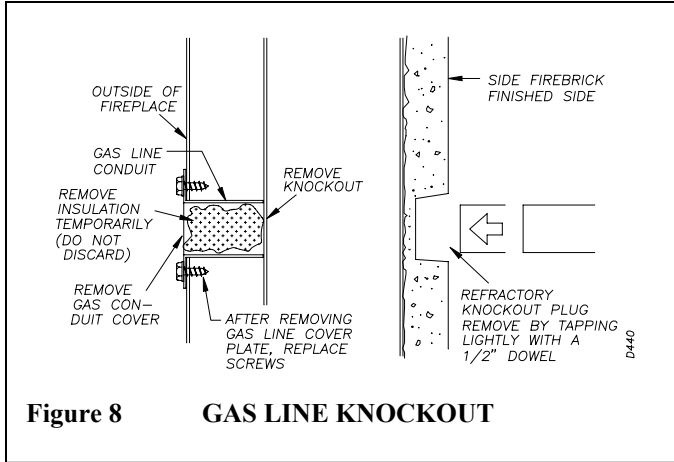

Figure 8 GAS LINE KNOCKOUT
STEP 1: To install, remove the knockout indentation on the firebrick wall located approximately 2 inches above the refractory hearth floor on the required side. The knockout indentation must be firmly tapped with any solid object until it is released. Remove fragmented portions of refractory (see figure 8).